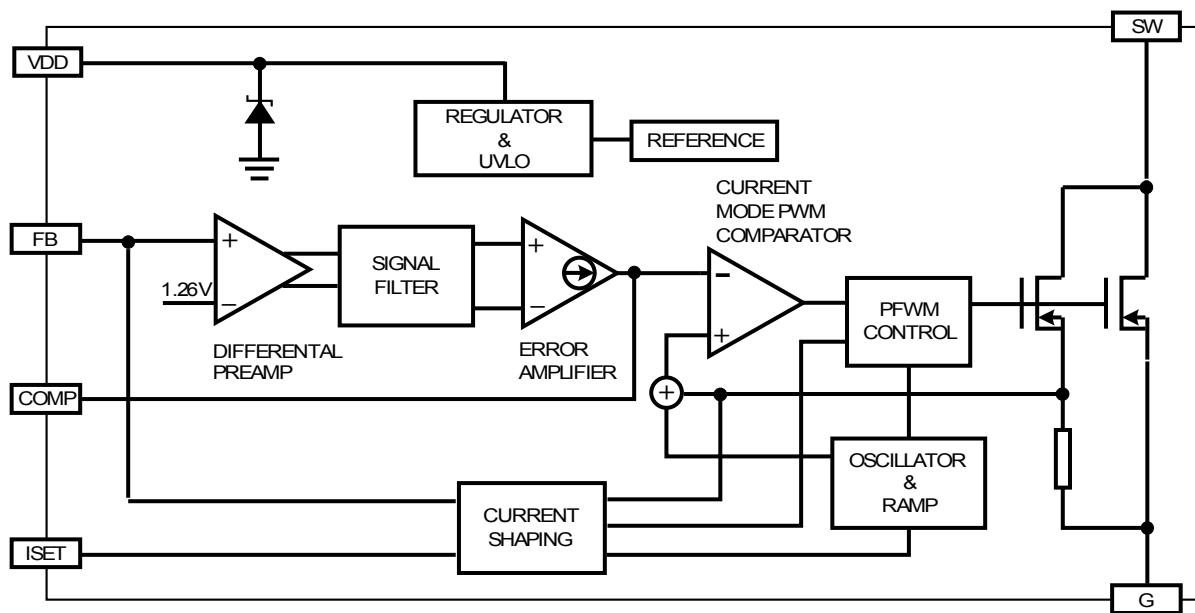

Figure 2. Functional Block Diagram
Figure 2 shows the *Functional Block Diagram* of the ACT34. Feedback regulation is done via current mode PWM control. The external COMP pin allows optimal trade off between stability and transient response performance. The ISET pin permits external programmability of the power switch peak current and, together with the Current Shaping circuitry, produces a constant current (CC) profile when the secondary output reaches current limit.